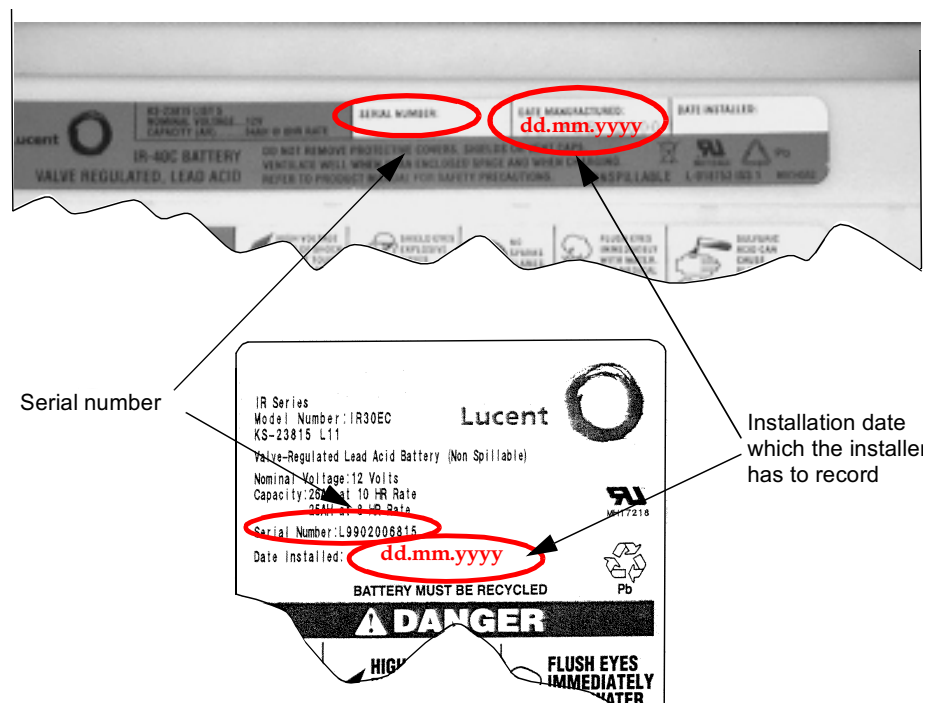

Figure 7-4 Battery labels showing the battery serial number and installation date
Step 8 Note this battery number and the battery serial number, which can be found on the battery sticker in the Installation and Maintenance Record. Refer to Figure 7-4 for the location of the serial number.